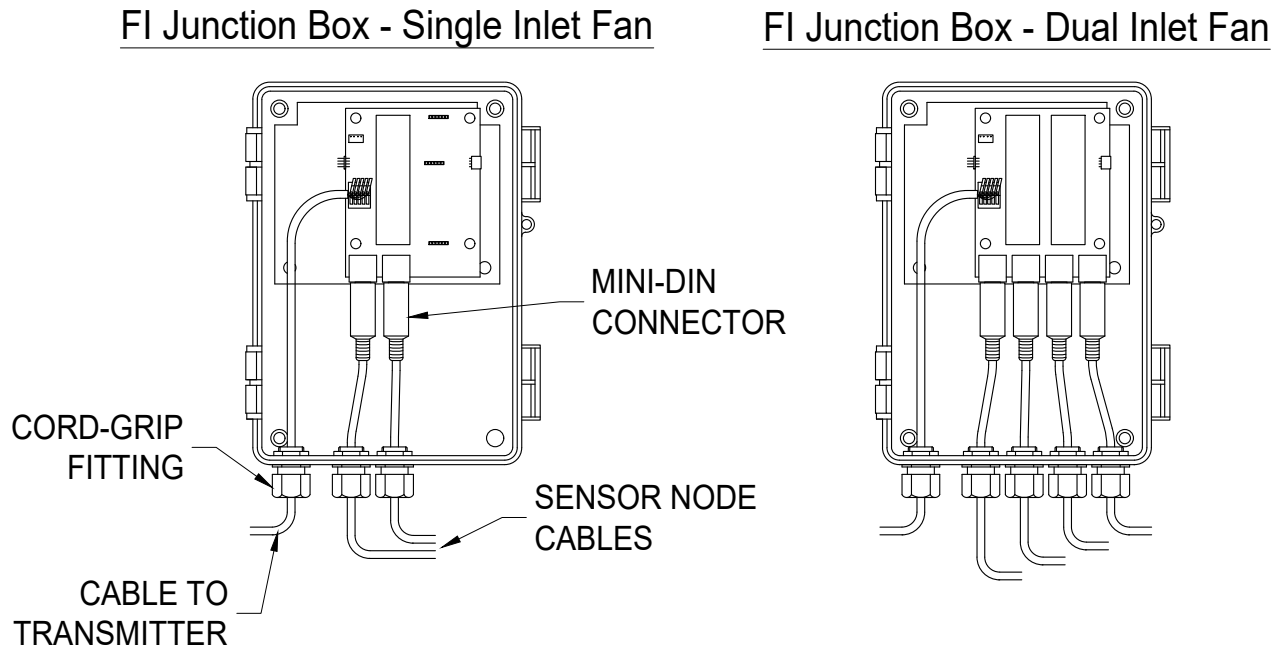

Figure 4
- Open the FI Junction Box, insert each cable through the indicated access hole of the enclosure. Slide a cord-grip nut over the mini-DIN connector, then plug the connector in. Secure each cable in place by means of the cord-grip fitting already installed on the cable and the pre-installed nut. Repeat for all remaining cables. See Figure 4 for single and dual inlet installations. Refer to project specific documentation for cable connections on fan walls.